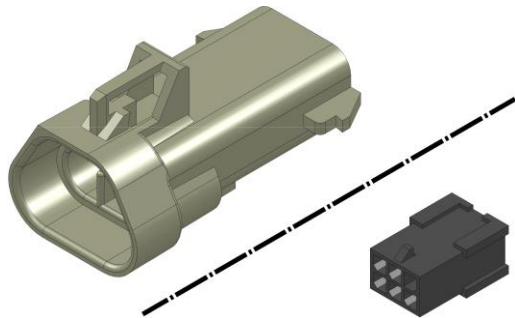

Figure 2. J12 Old Style Dash Harness Connectors
3. Compare the connector on dash harness (labeled J12) to **Figure 2**.
- a. **If the J12 connector on dash harness matches either of the connectors shown in Figure 2;** Individually cut the (5) wires going into that J12 connector, one wire at a time to prevent short circuiting.
- b. **If the J12 connector on harness does not match either of the connectors shown in Figure 2;** Locate and connect the supplied new Driver Interface to the dash harness and skip to Step 9 below.
6. Match the wire colors and crimp the butt-splices to the (5) dash harness wires.